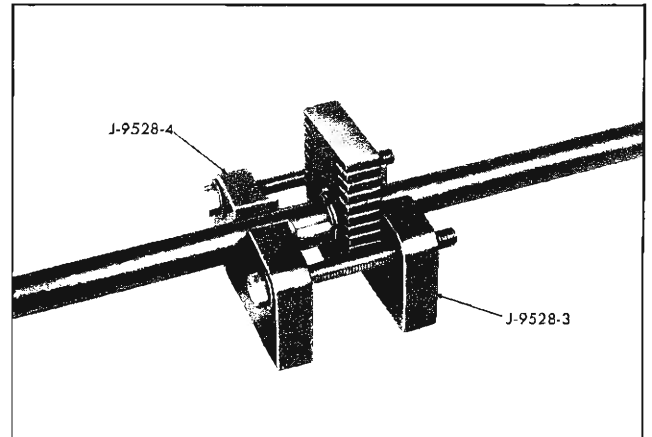

Fig. 4-19 Tools J-9528-3 and J-9528-4 Installed
1. Position tools J-9528-3 and J-9528-4 on propeller shaft (Fig. 4-19).